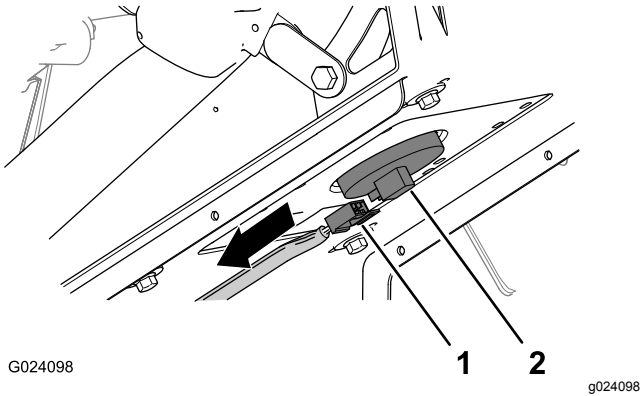

Figure 5
1. Remove the 2-socket connector of the machine wire harness that connects to the seat-switch connector (Figure 5).